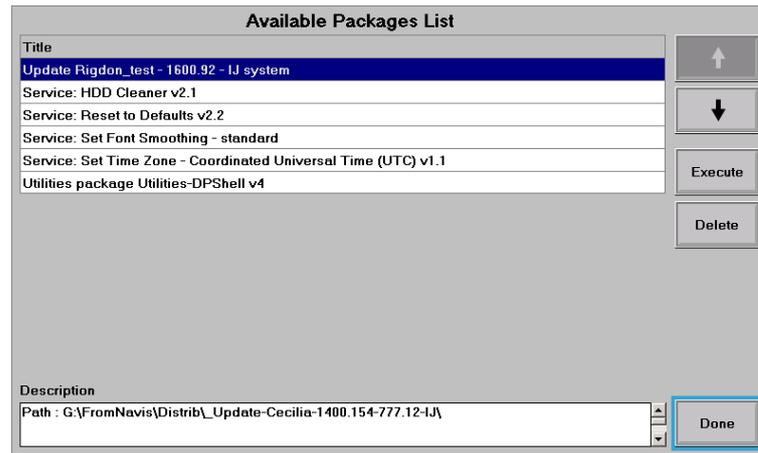

Figure G.19: DPSHELL. Update package installing
All registered SW updates are logged in the **DPSH** utility (see Figure G.19). All necessary information about the updates is available in “Update & Service” menu item, in the “Description” window.
– wait for “Available updates List” window will appear (see Figure G.19). This operation may take up to several minutes;